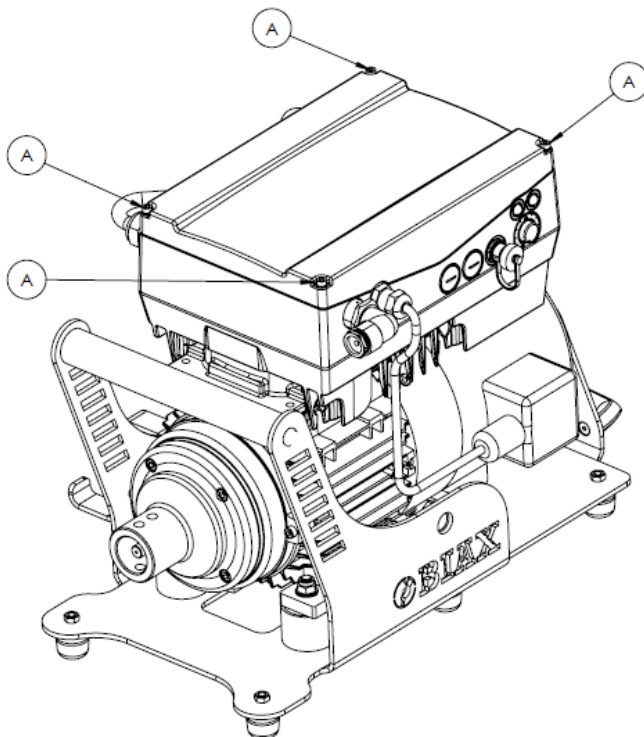

Figure 1: Removal of the screws
Remove the 4 screws (A) from the drive unit as shown in Figure 1.